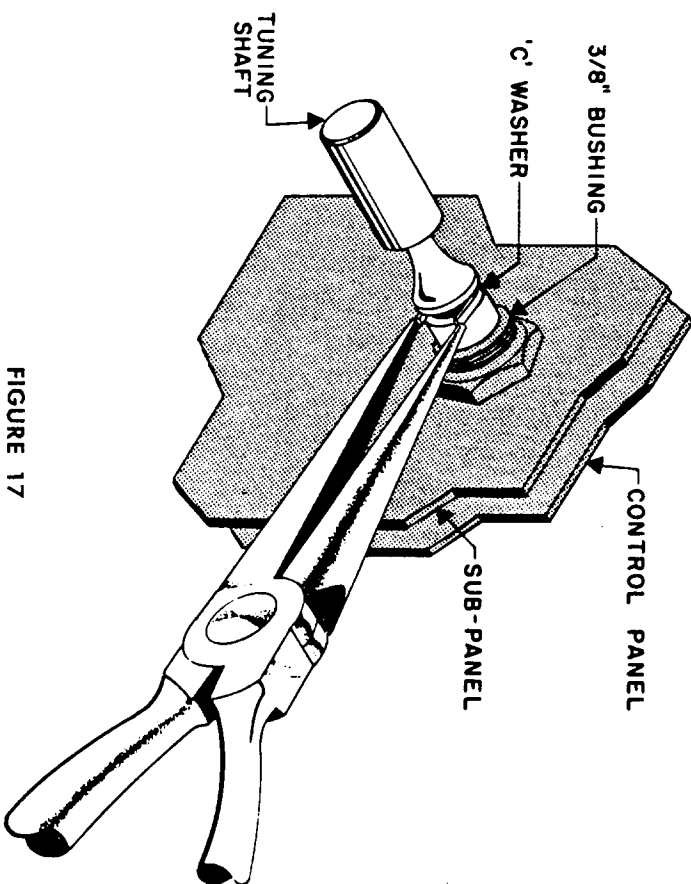

FIGURE 17
- ☐ Tuning shaft and two C washers. See Figure 17. Place a C washer in the groove near the center of the shaft. Lock it in place by pinching the ends of the washer with your longnose pliers. From the back of the control panel, insert the shaft through the  $\frac{3}{8}$ " bushing marked BANDSPREAD. Place the second C washer in the remaining groove and lock it in place with your longnose pliers.